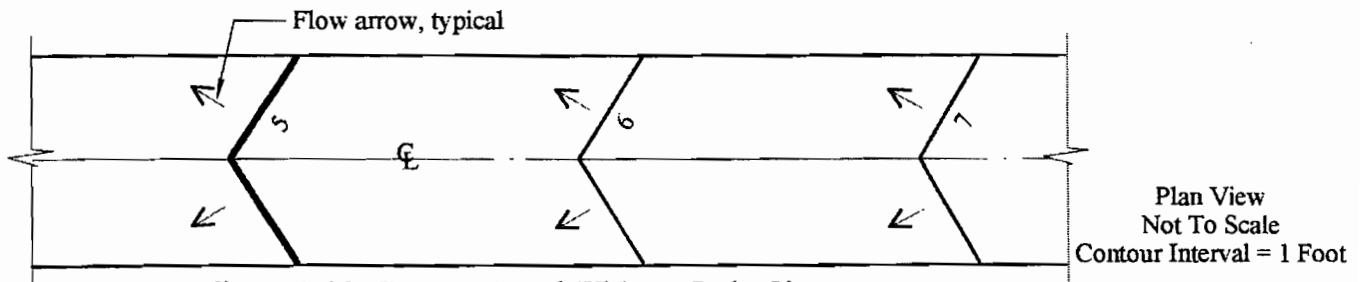

Figure 3-30. Concrete Road Without Curbs Signature
Figure 3-30 shows a simple portland cement concrete (PCC) road with a crown (raised center), but without curbs, sidewalks or shoulders. Note the pronounced *chevron shape* of the contour lines on this
16. Contour signature representing a dam. Figure 3-30 illustrates a typical dam signature. Note that the basic underlying signature is that of a swale, but with revised contours having been inserted across the swale to block, or dam, runoff flowing into and down the swale. This signature is important in stormwater management problems where a retention or detention basin is required.